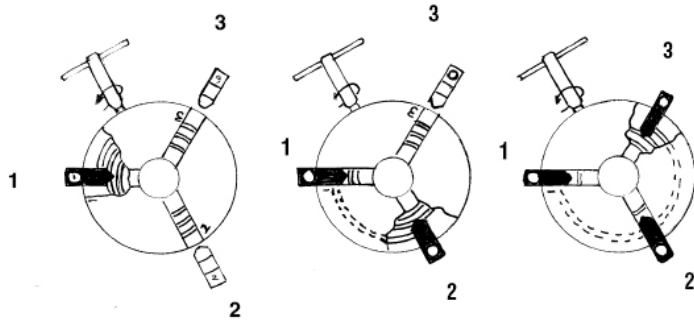

Fig.9
changing the other jaws, referring to figure 9. The jaws are numbered 1, 2, 3 and it is **very important** that they are installed into the corresponding numbered slot.
1. Reinstall in the order of 1, 2, 3 (counterclockwise – see Figure 9)